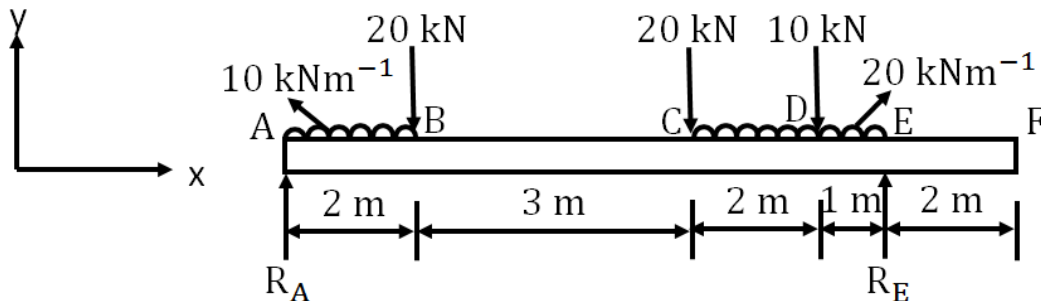

Fig. Q 1 (f)
- f) The beam shown in Fig. Q 1 (f) is loaded with a combination of concentrated and uniformly distributed loads. Suppose the point of inflection occurs between C and D, find its location from point C. (3 marks)